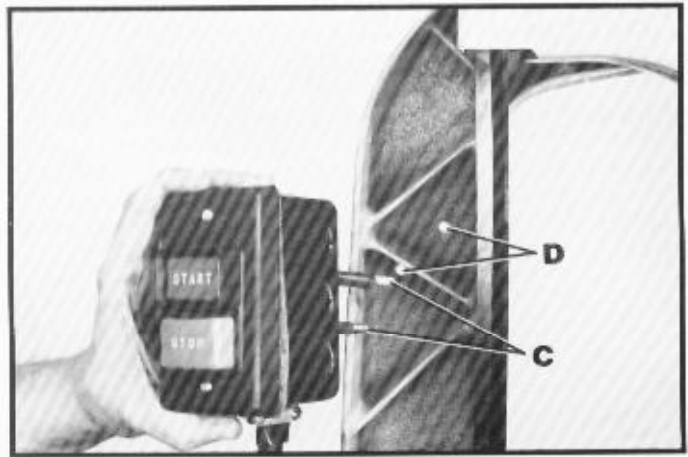

Fig. 8
4. Insert two screws (C) Fig. 8, located on back of switch box, into two holes (D) located in the band saw arm.